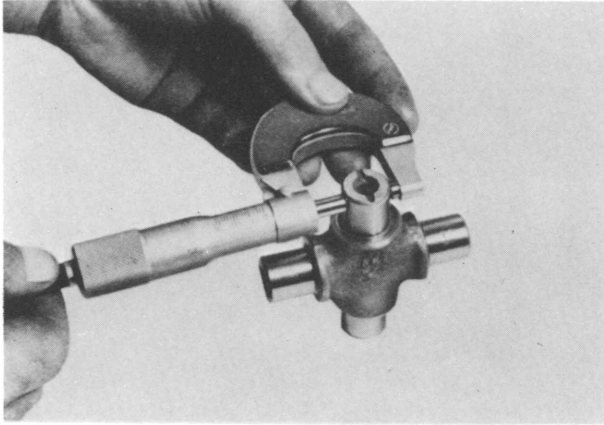

Fig. 8-6 Checking spider
3. Install the universal joint replacer (19 0230 400) to the universal joint yoke as shown in Fig. 8-6.